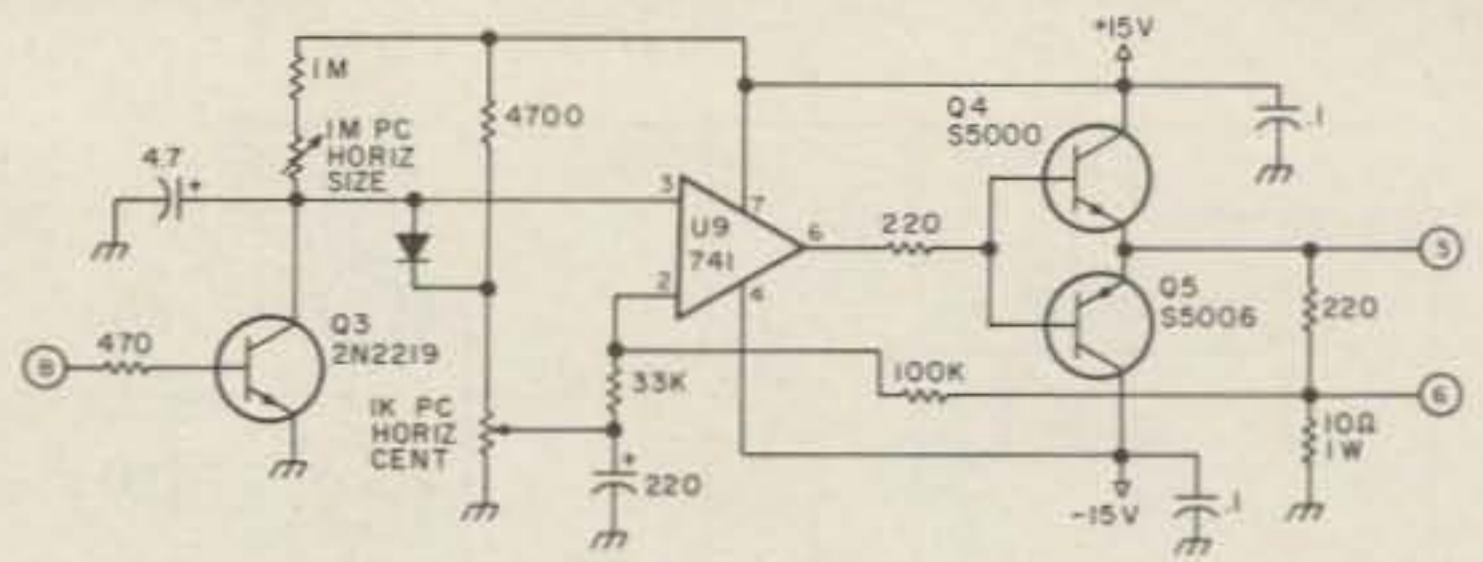

Fig. 5. Horizontal deflection circuits.
*Horizontal deflection* (Fig. 5). The 12 ms trigger pulse at "B" turns on Q3 for the duration of the pulse,